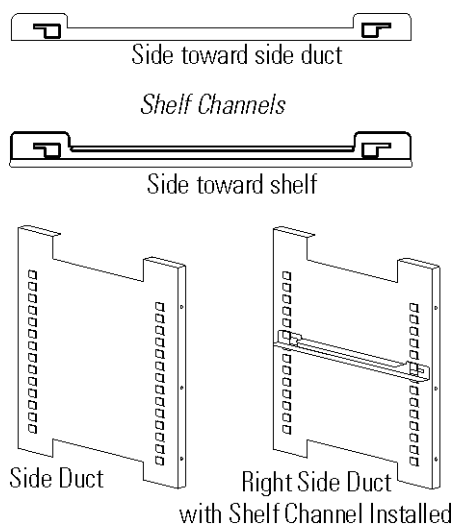

Figure 1-7. Shelf Channels and Ductwork
- Install the large sheet metal shelf supports with the tabs facing into the center of the chamber with their slots up. There are no right side or left side supports. Simply turn one of them to fit the opposite side. Tilt the shelf supports as they are placed in the chamber so the tops fit into the top air duct, then guide them into the vertical position. Figure 1-7 shows the support as it would be oriented for right side of chamber.